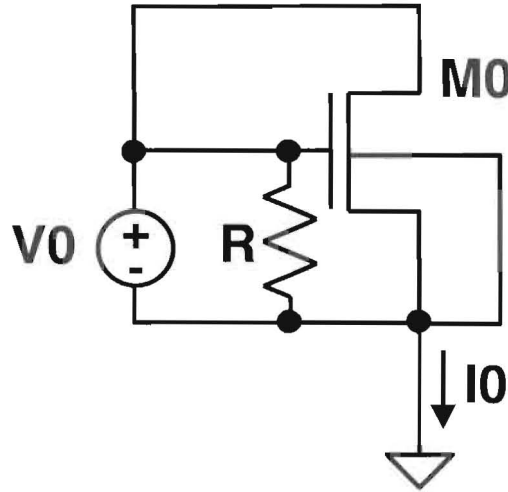

Figure 1: Measurement setup and model for an ESD-damaged NMOS transistor.
**Problem 1.1 (7 points)** Figure 1 shows a simple resistor-MOSFET ( $R$ - $M0$ ) model of an NMOS transistor which may have suffered damage due to electrostatic discharge (ESD). Assuming  $R = \infty$ , fill in Table 2 below.